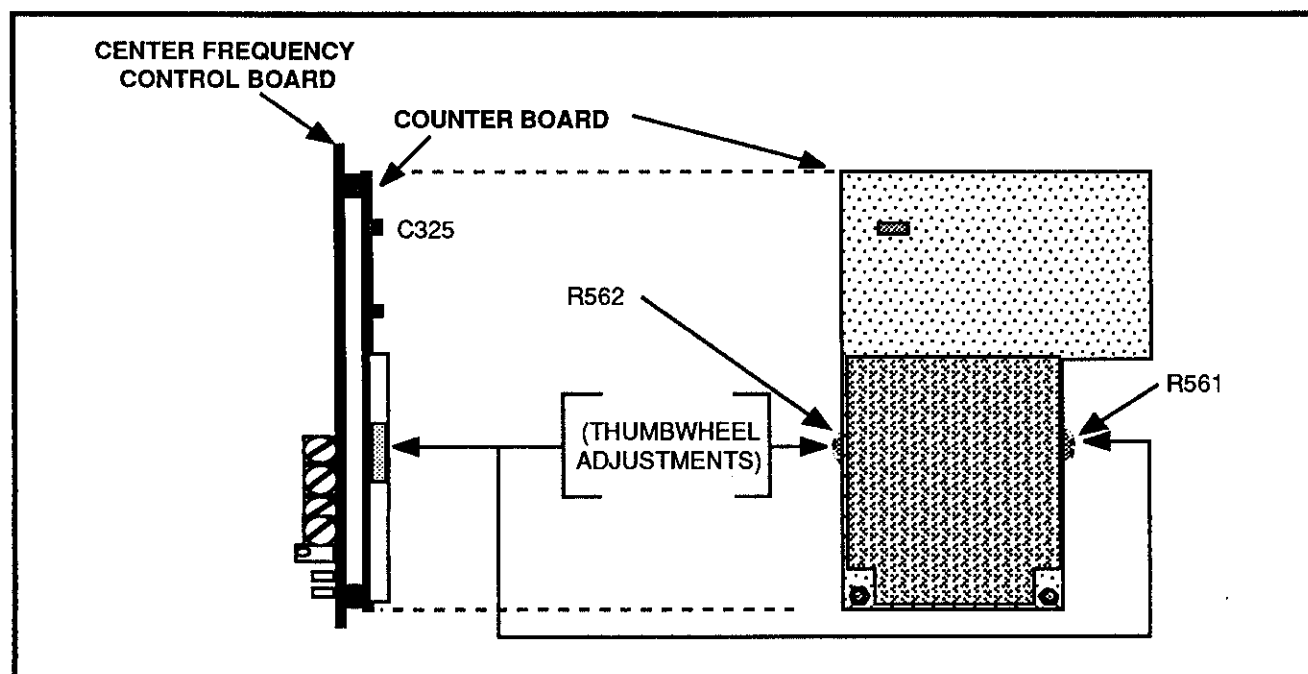

Figure 4-12. Counter Amplifier board adjustments.
(1) Test Oscilloscope
c. Monitor the negative plate of C325 (Figure 4-12) with the test oscilloscope.
d. Adjust R562 (Figure 4-12) for $0.7 V_{pp}$ of the beat note.